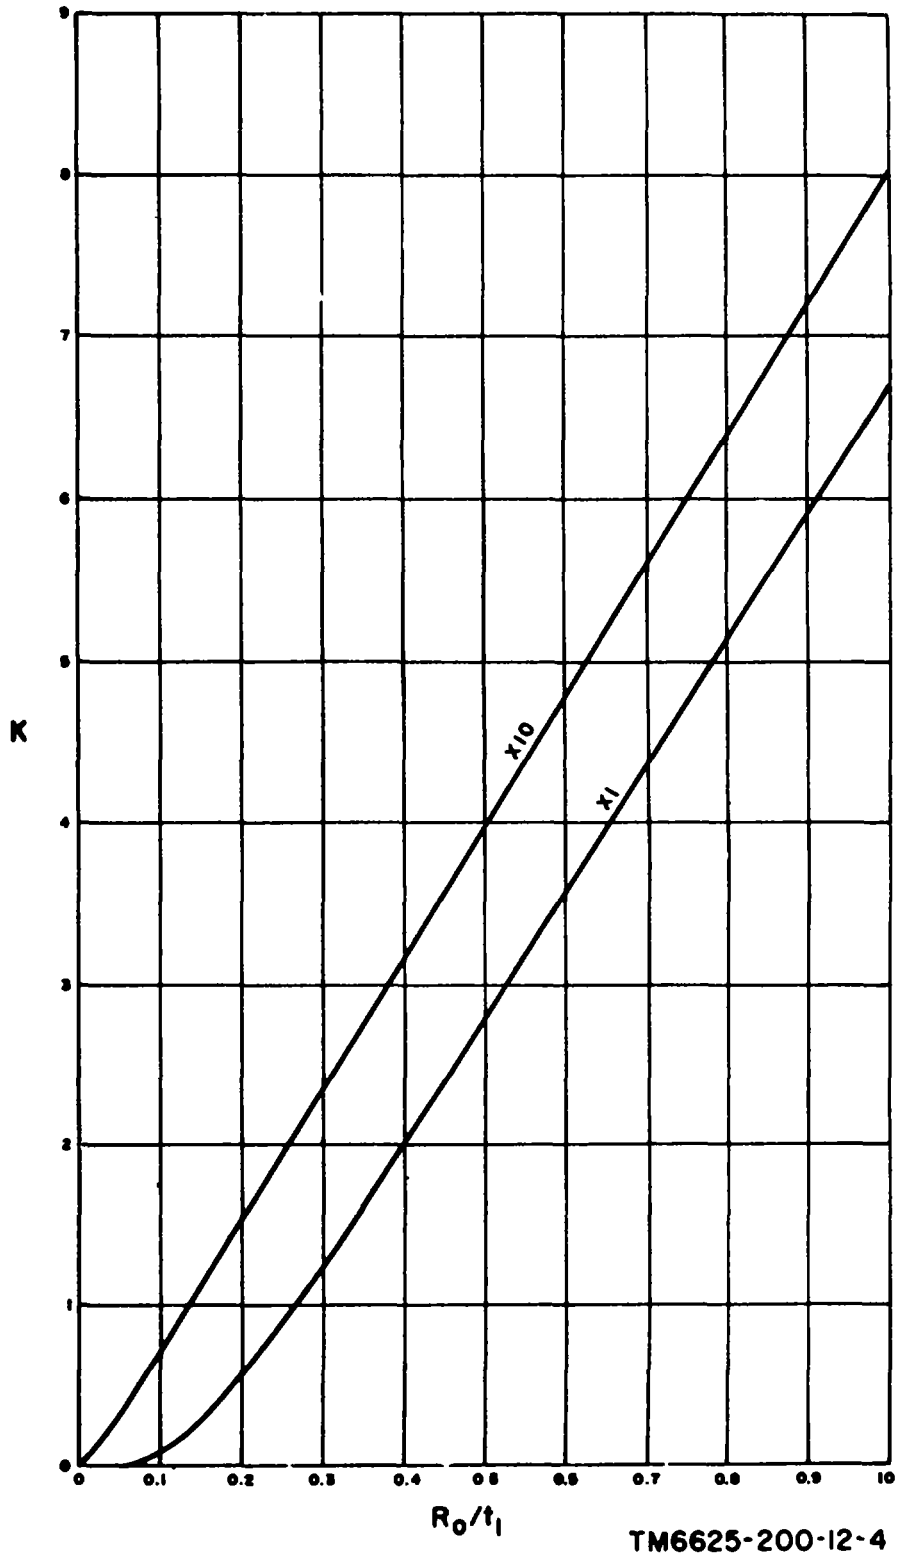

Figure 3-5. Pulse generator from factor curves.
(1) t_1 , duration of the positive portion of the pulse voltage in microseconds.
(2) t_2 ; duration of the negative portion of the pulse voltage in microseconds.
(3) PRF; pulse repetition frequency in pulses per second.
(4) R_0 ; impedance of the pulse generator in kilohms.
(5) K ; pulse generator form factor (c below).
c. Pulse Generator Form Factor. The pulse generator form factor (K) is determined from the curves shown in figure 3-5. Note that the impedance of the pulse generator (R_0) divided by the duration of the positive portion of the pulse voltage (t_1) is plotted horizontally, and the pulse generator form factor (K) is plotted vertically. The running parameters indicate the value of K for any value of R_0/t_1 , between 0 and 10.
(1) The curve labeled X1 is used when the value of R_0/t_1 is between 0 and 10. When this curve is used, the scale values for R_0/t_1 , and K are read directly.
(2) The curve labeled X10 is used when the value of R_0/t_1 is between 1 and 10. When this curve is used, the scale values for R_0/t_1 , and K must be multiplied by 10.
(2) To determine T_2 , subtract the time duration of the positive portion of the pulse (t_1) from the total time available for the pulse. Note that with a PRF of 1,000 pulses per second, the time interval from the start of one pulse to the start of the next pulse is 1,000 microseconds; t_2 , =1,000-10=990 microseconds.
(3) To determine K , divide R_0 by t_1 ; R_0/t_1 , = 2/10=0.2. Apply this value to figure 3-5 and use the curve labeled X1, $K=0.55$.
(4) Substitute known values in the formula (pulse voltage = measured voltage X correction factor) and solve for the pulse voltage: Pulse voltage .8 X $1.4 (1 + 10/990 + 55/1000)$ =1.1328 volts.